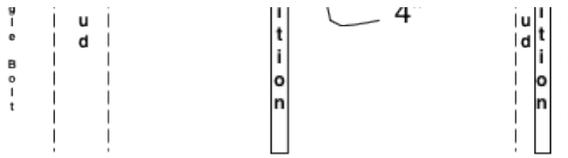

Fig. 4
7. Fasten the rail to the wall with a zip toggle bolt (#10) wherever a partition will be hung that is more than 4" to the left or right from the center of a support stud . (See Fig. 4)